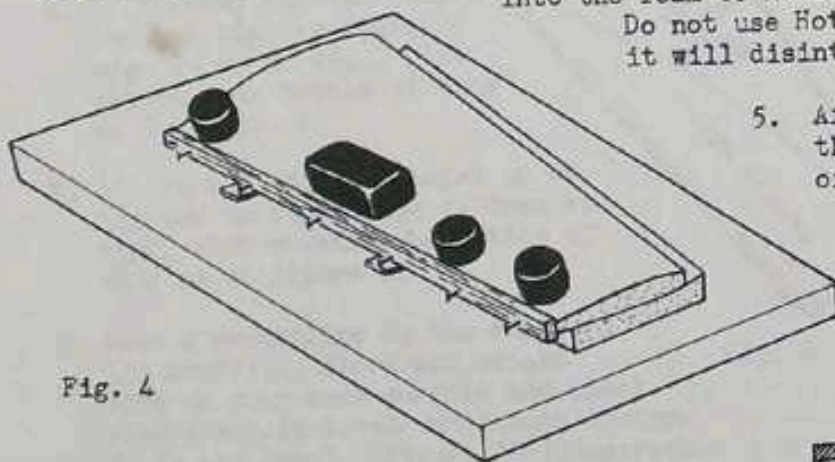

Fig. 4
4. Insert a number of T-pins through the centerline of the 1/4" x 1/2" x 36" medium soft balsa trailing edge with their points barely protruding. Apply 5-minute epoxy and place the balsa against the rear of the wing, being careful not to disturb the aligned surface. Push the T-pins through into the foam to hold the balsa in place as in figure 4. Do not use Hot Stuff in contact with foam as it will disintegrate the foam.